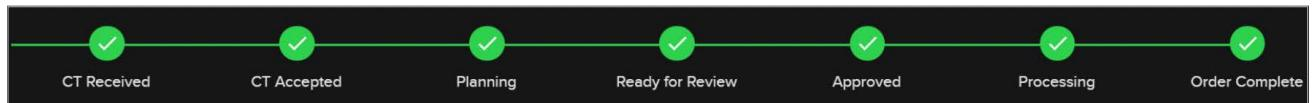

Figure 4. Case status flowchart
- **Status**—This indicates a case's current status along the preoperative planning process (Figure 4). The case progresses through the following statuses during the preoperative planning workflow: